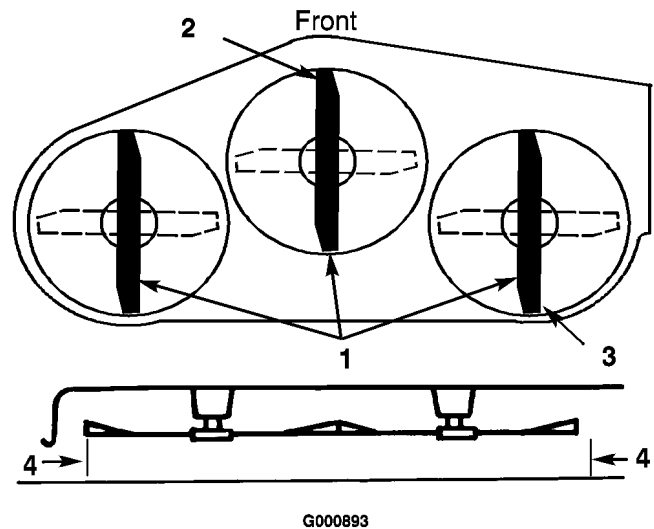

Figure 44
8. Set the height-of-cut at 3 inch (76 mm) and carefully rotate the blades so they are facing front to rear (Figure 44).
9. Measure between the tip of the front blade (Figure 44) and the tip of the rear blade to the flat surface. If the front blade tip is not 1/16-5/16 inch (1.6-7.9 mm) lower than the rear blade tip, adjust the front trunion rods.
12. After adjusting both trunion rod yokes evenly, secure the yokes with the hairpin cotters. Check the front-to-rear level again. Continue adjusting the yokes until the front blade tip is 1/16-5/16 inch (1.6-7.9 mm) lower than the rear blade tip (Figure 44).